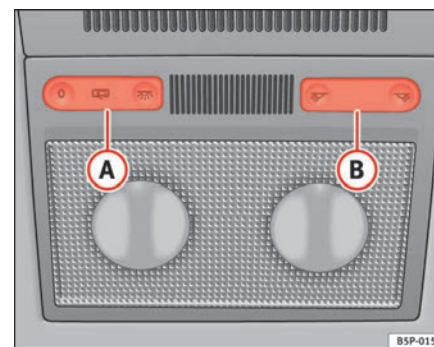

Fig. 78 Interior roof trim: front interior lights
The switch \Rightarrow fig. 78 (A) is used to select the following positions:
Push the switch to position 0 \Rightarrow fig. 78.